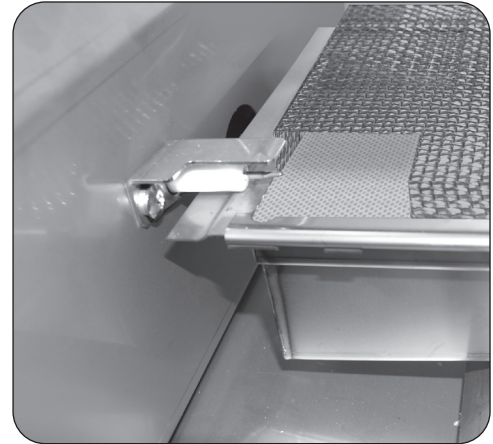

Fig. 4-2 New electrode
7. Slide the infrared electrode wire into the large knock-out hole. Secure the igniter assembly in place through the small knock-out with the provided screw and nut (see Fig. 4-2 and see 4-3).